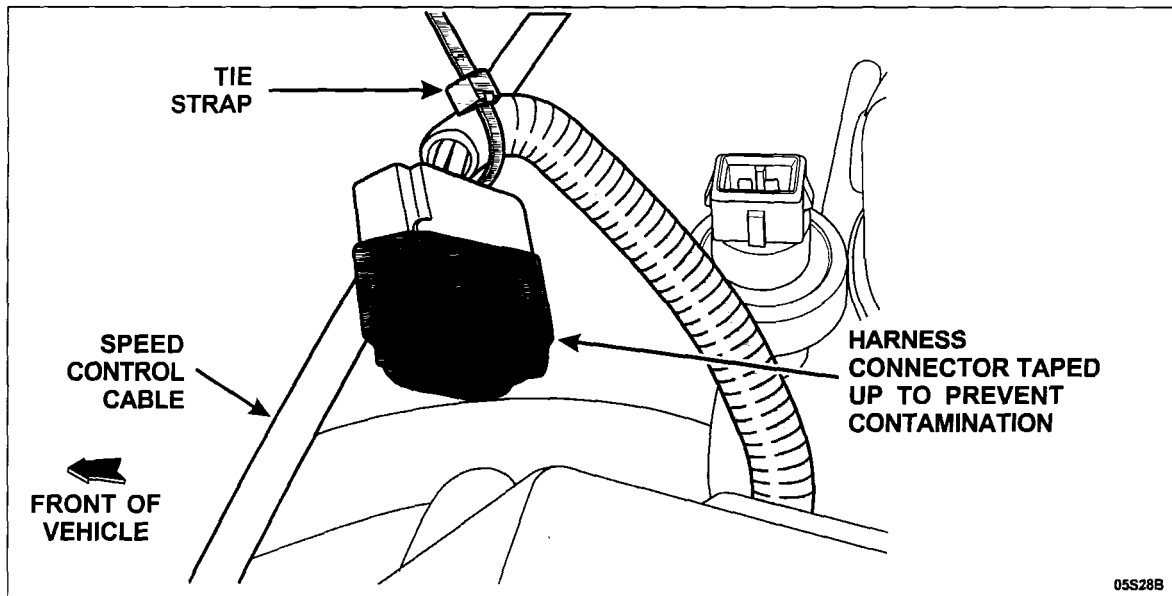

FIGURE 2
3. Secure the connector by tie strapping it to the speed control cable coming from the servo. Keep the harness away from the power distribution box to avoid chafing the harness. See Figure 2.